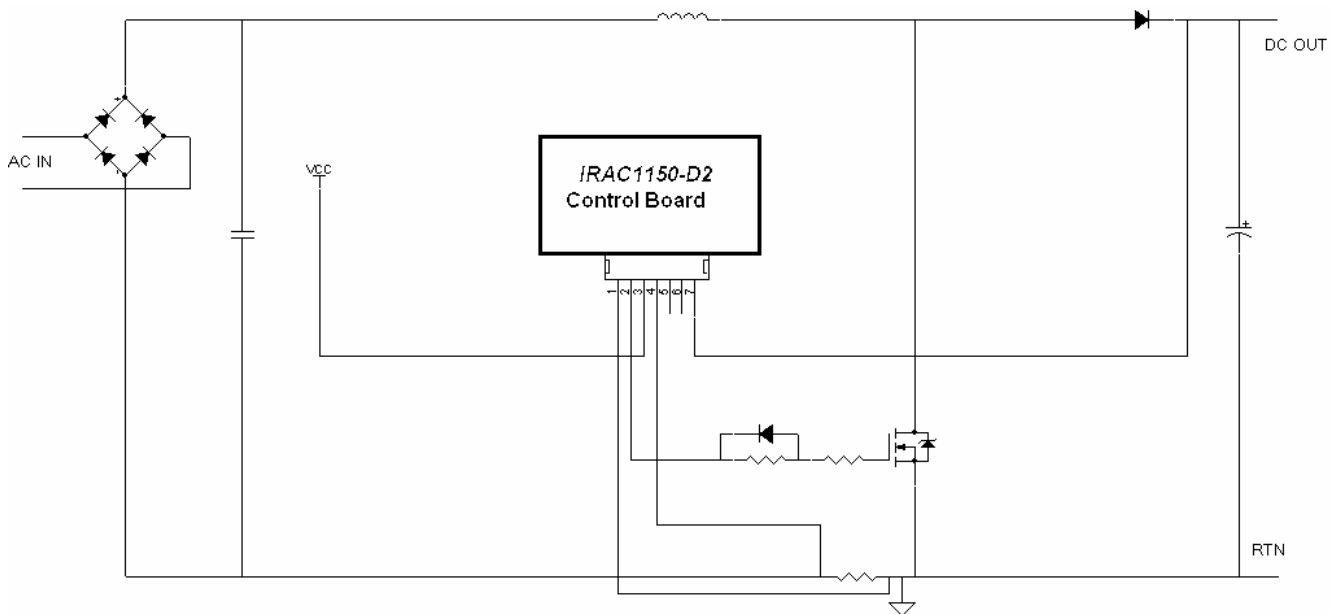

Figure 7 - IRAC1150-D2 Control Board Integrated into Existing Design
The IRAC1150-D2 Control Board can be integrated into SMPS designs with minor circuit level modifications. Many components can be removed from the above design when using the IRAC1150-D2. System performance will be maintained while the number of required components and pcb space will be greatly reduced. The IRAC1150-D2 Control Board is integrated into the existing design as shown below in Figure 7. The board is designed for a  $V_{CC}$  range of 14VDC to 20VDC.
The IRAC1150-D2 provides voltage divider strings for both the output voltage error amplifier and the overvoltage protection comparator on-board, so pin 7 is connected to the output of the converter as shown in Fig. 7. In designs where resistor divider strings are present on the motherboard, the IRAC1150-D2 can be modified according to the following, (ref schematic Fig.1). Output voltage is set for a nominal 390VDC.
- An additional feature of the IRAC1150-D2 is the OVP/EN function, (pin 5), which is shown in the circuit of Figure 7 as not connected. This pin can be brought out into the circuit in order to initiate “sleep mode” feature of the IR1150S control IC.